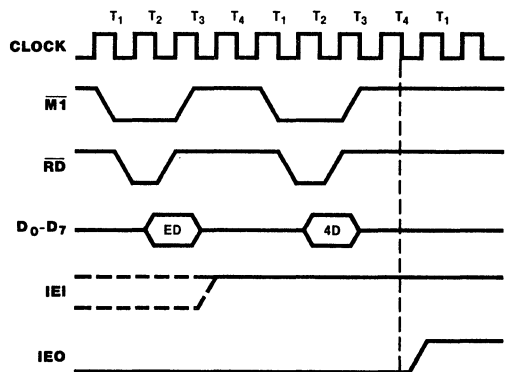

Figure 8. Return from Interrupt Cycle
**Return From Interrupt Cycle.** (Figure 8) Normally, the Z80 CPU issues an RETI (Return From Interrupt) instruction at the end of an interrupt service routine. RETI is a 2-byte opcode (ED-4D) that resets the interrupt-under-service latch to terminate the interrupt that has just been processed.